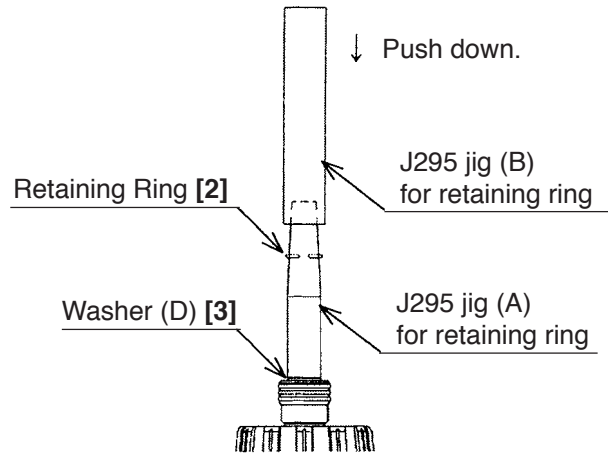

Fig. 16
(9) Mounting Guide Sleeve (A) [5]
Put the Steel Ball D3.5 (10 pcs.) [10] in the hole of the socket. Mount Guide Sleeve (A) [5], Guide Spring [4] and Washer (D) [3] in sequence. Fit the Retaining Ring [2] in the groove of the socket using the J295 jigs (A) and (B) for retaining ring as illustrated in Fig. 16.